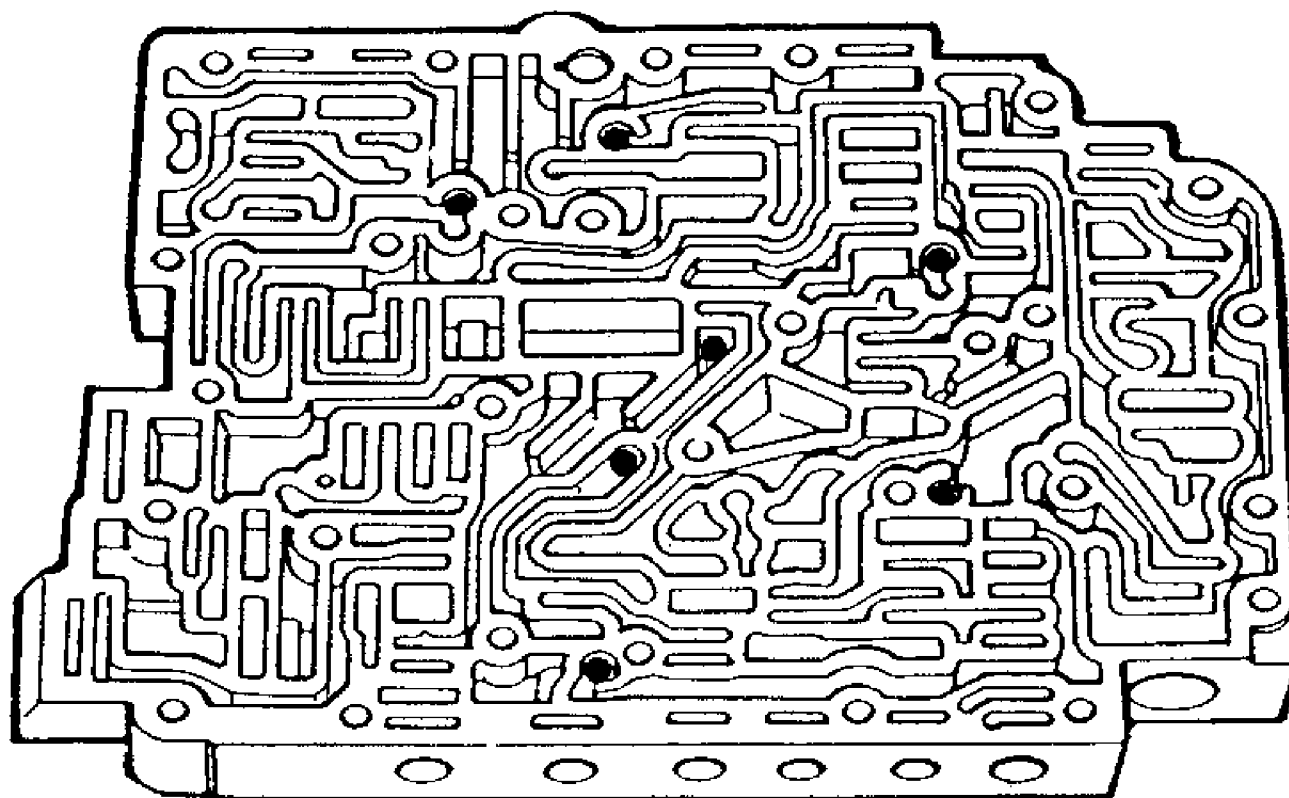

Figure 3
These valve bodies require seven (7) checkballs placed in the locations shown in Figure 3, and is for following vehicles: